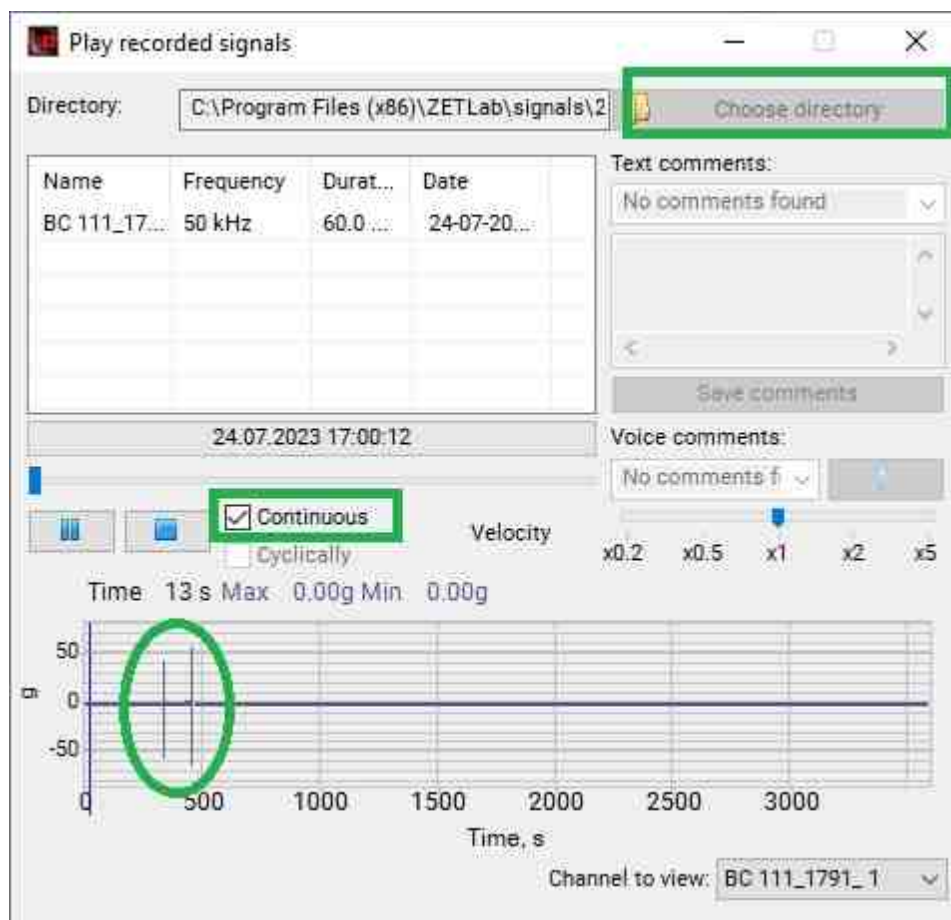

Fig. 2.4 «Play recorded signals» program
7. In the opened window of the **"Play recorded signals"** program (Fig. 2.4) a directory with an hourly record containing the area of interest will automatically open. To play back a Signals recording from a certain point in time on the preview graphic, place the cursor on the corresponding time mark. If you need to play a recording lasting more than 1 hour, then you should check the box **"Continuously Press the button to start playback"**. «».